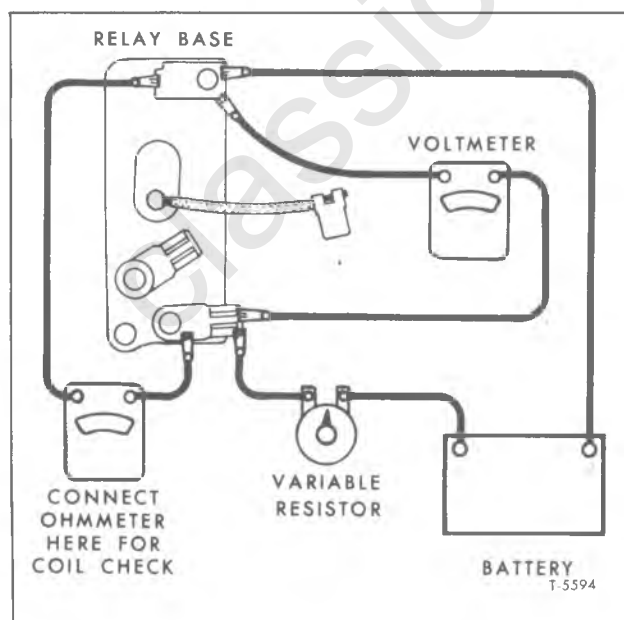

Figure 28—Field Relay Unit Check
The relay unit may be checked as follows. Refer to figure 28 for test connections.
1. Connect an ohmmeter across terminals as shown in figure 28. An infinite reading indicates an open shunt coil which will require replacing the relay.
2. To check closing voltage, connect a battery, 50 ohm variable resistor and voltmeter into circuit as shown in figure 28. Slowly decrease resistance and note voltage at which relay points close. If voltage at which points close is not within limits listed in "Specifications" at end of this section, replace the relay.